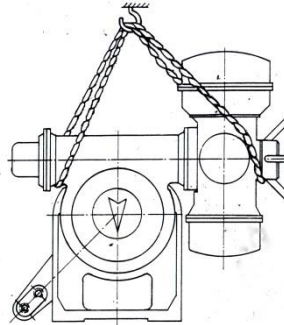

Figure 3.9
- Refer figure 3.9 for general arrangement of the foot mounted worm gearbox with actuator.
- Lift gently by putting rope around the actuator and other end of worm shaft housing with the help of hook as shown in figure 3.9